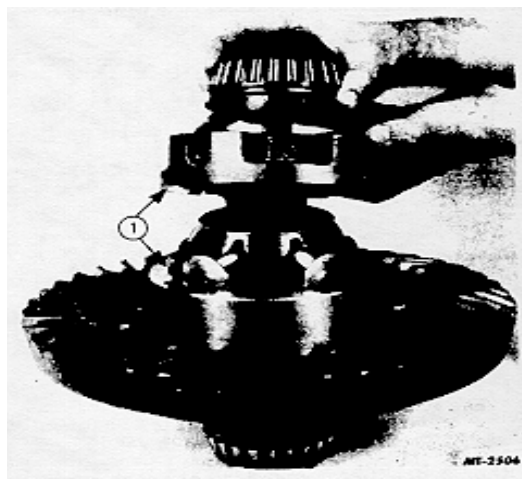

Fig. 13. Separating Differential Case Halves
2. Cut lock wire and remove capscrews or stud nuts to separate case halves, Fig. 13. Some differential assemblies use self-locking capscrews and nuts.